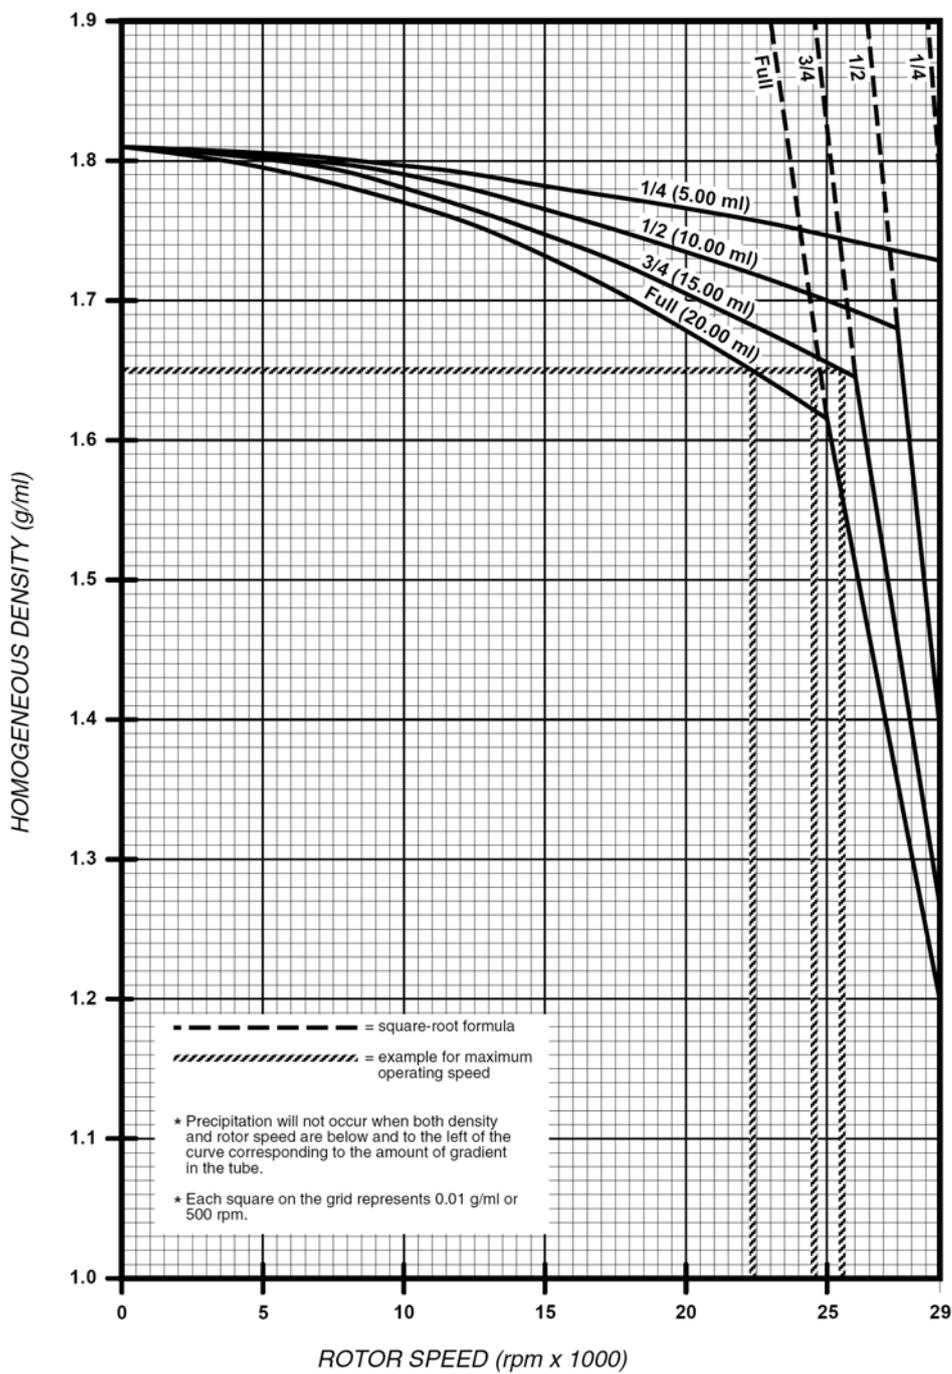

Figure 2-3. CsCl Precipitation Curve, 20 ml Buckets, 5°C
- 22,300 rpm at 5°C using 20 ml buckets (Figure 2-3)
- 25,400 rpm at 5°C using 20 ml buckets (Figure 2-3)